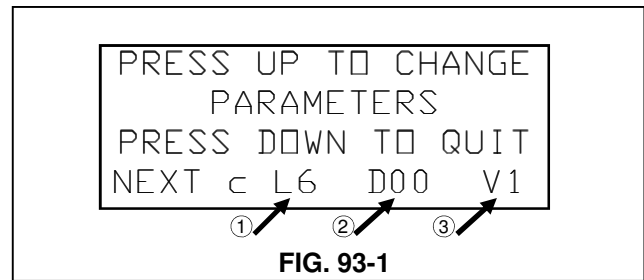
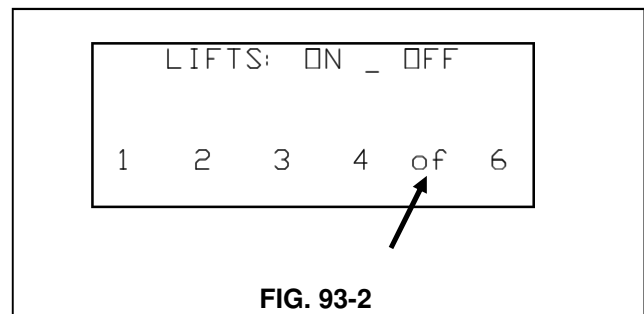

FIG. 93-1
FIG. 93-2
Press the **LIFT 1 up** button under the **PAR** on the LCD display **two times** and the display will show you how many lifts are turned on. In figure 93-1, item 1, the display shows **L6** indicating that all 6 lifts are on.
To change the number of lifts to match your machine, press the **LIFT 3 up** button under the **L** (fig. 93-1, item 1). This will display the **LIFTS: ON—OFF** screen (fig. 93-2).
Press the **LIFT 1 up** button under the **PAR** on the LCD display **two times** and the display will show the current setting of the **Dwell** (fig. 93-1, item 2) for all up and the **Valve compensation** (fig. 93-1, item 3) as either **1 = on**, or **0 = off**.